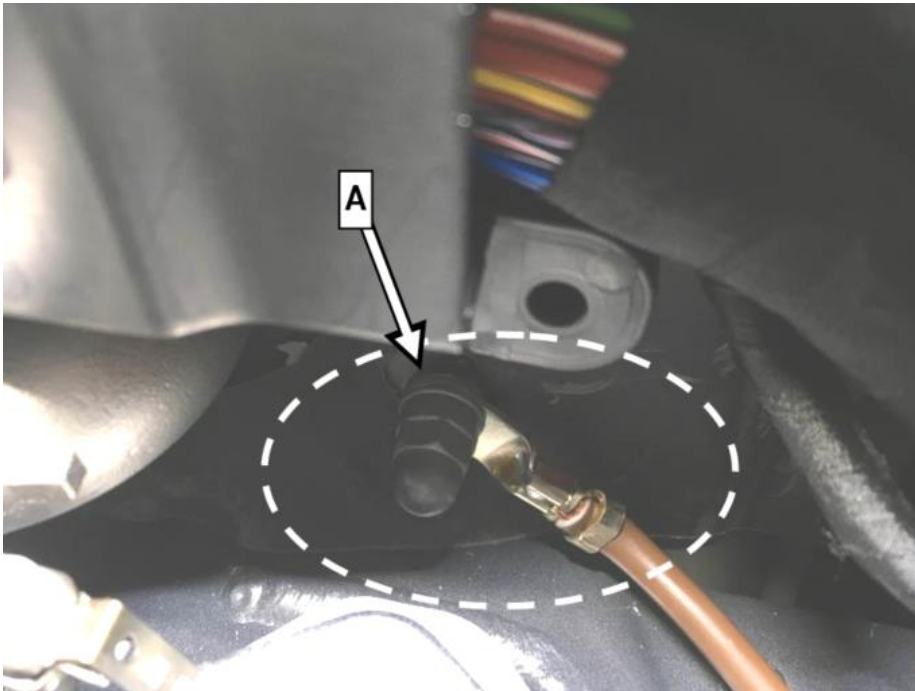

Figure 3, shown on vehicles with code ME 10 (Hybrid vehicle (plug-in, PHEV))
i For vehicles **with** code ME 10 (Hybrid vehicle (plug-in, PHEV)), the ground line runs from the windshield heater control unit to the ground point (A, Figure 3).
4. Check contact surfaces at lug of ground line and weld stud for damage (**Figure 3**).